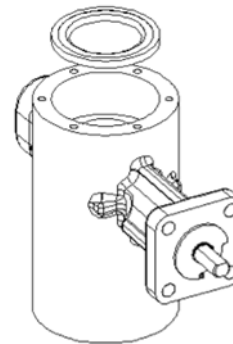

FIGURE 3
4. Rotate the ball to the open position. Remove the existing seat, then place the new seat in to the valve. Make sure there is no dust or foreign objects in the body or around the seat. This can cause the valve to leak. (Fig. 3)